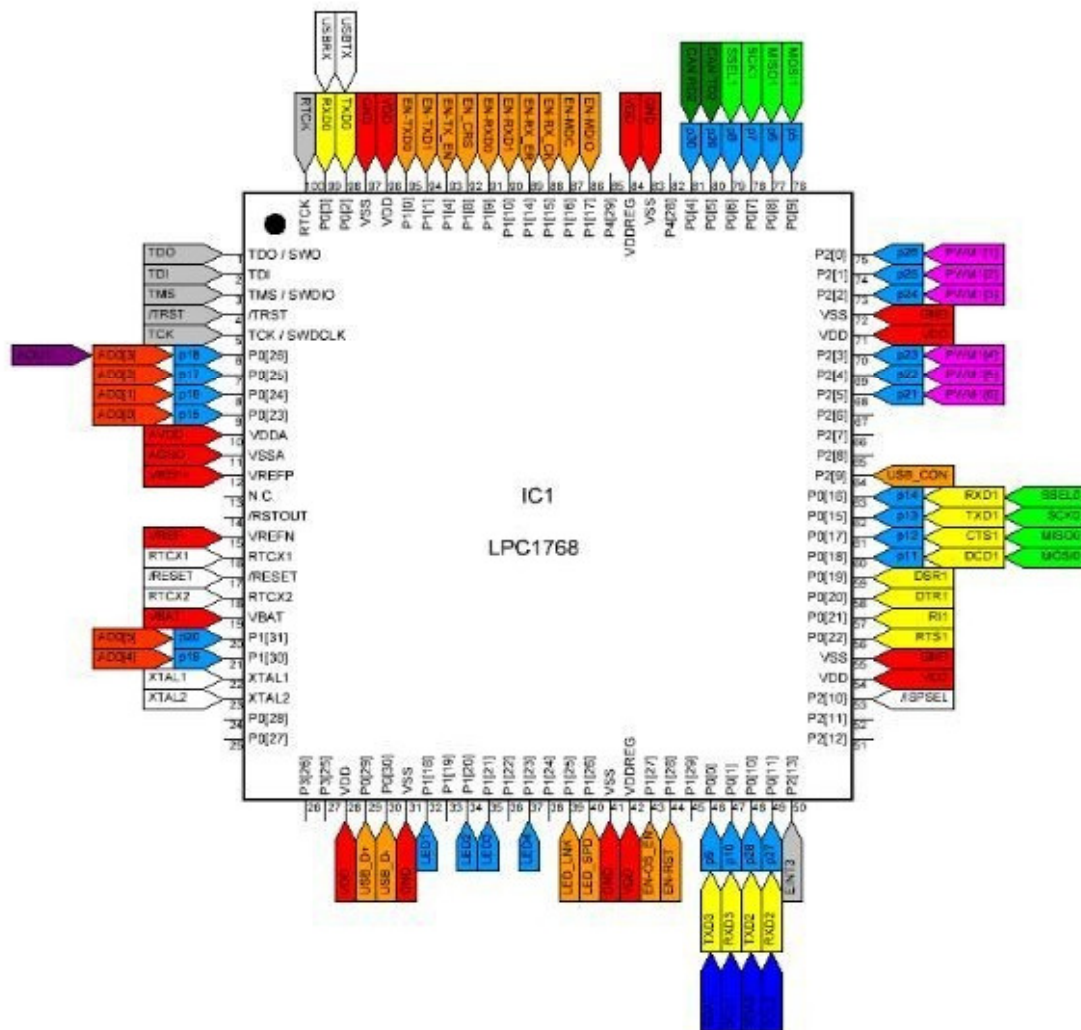

Figure 1: NXP LPC1768 Pinout
2. LPC1768 pinout diagram, which is labeled with the corresponding mbed pins. This document illustrates the different pins on the mbed development board, and how they connect with the ports and pins on the NXP LPC1768 (which is the internal MCU of the mbed as mentioned in the Introduction). This pinout can be found here and is shown in Figure 1: